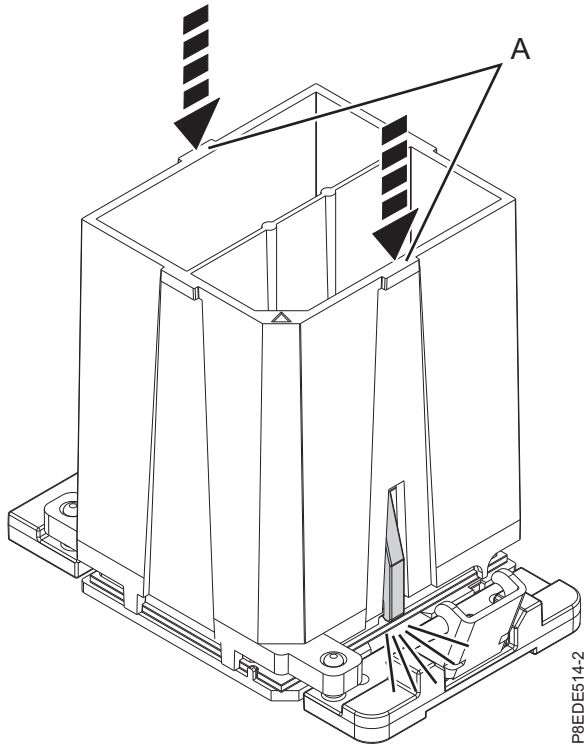

Figure 90. Locking the system processor module into the tool
- c. With the removal tool (A) sitting on top of the system processor module, push down on the tool to lock the system processor module into the tool, as shown in Figure 90 on page 89. Make sure that both of the tool jaws are locked on the system processor module. Do not press the blue release tabs until directed to do so later.